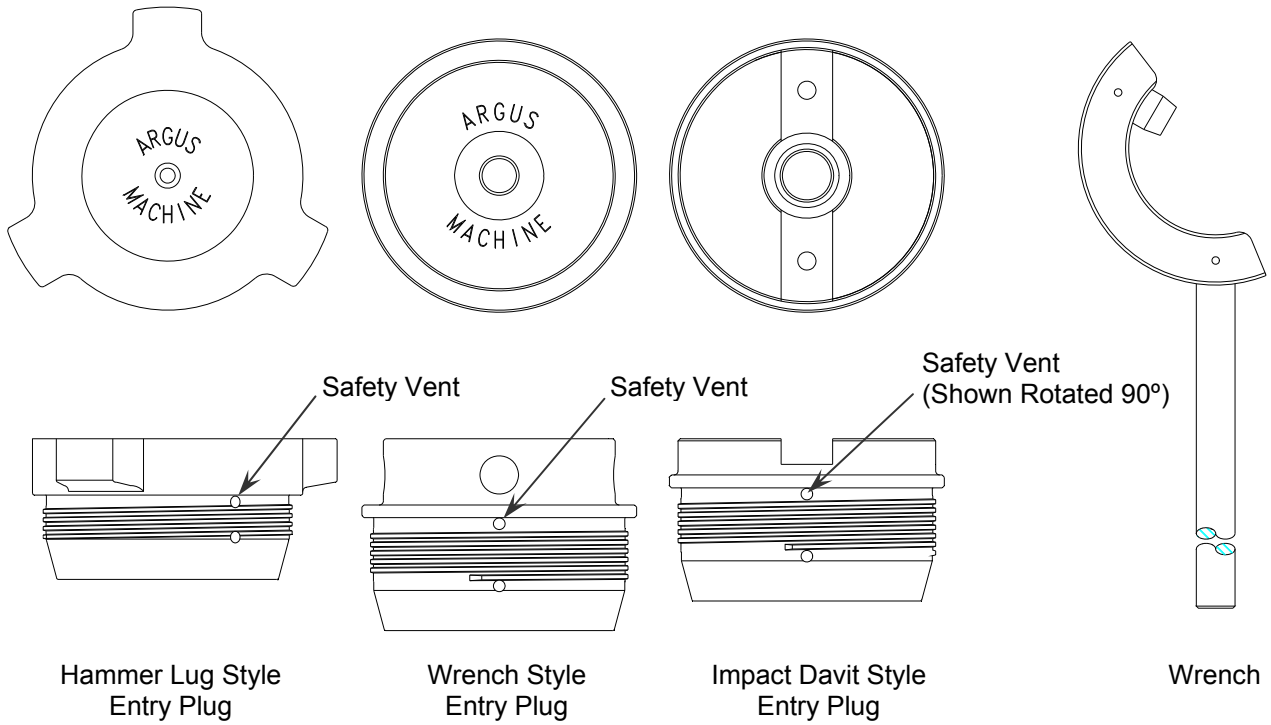

Figure 3: Argus Entry Plug Styles
(Refer to Figures 3, 4 & 5)
- 4) Slowly loosen entry plug (refer to Figure 3 to determine style of entry plug) by rotating counterclockwise using a “non-spark mallet”, “wrench” or “impact davit”. Observe the safety vent area (covered by the weather seal) at the top of the threads on entry plug (see Figure 2). If there is any media flowing from this area when the entry plug is being loosened, immediately re-tighten entry plug. Repeat steps 3 and 4. If unable to bleed all pressure from body cavity refer to the “Troubleshooting” section in this manual.
- 3) Slowly loosen entry plug (refer to Figure 3 to determine style of entry plug) by rotating counterclockwise using the supplied entry plug wrench. Observe the safety vent area (covered by the weather seal) at the top of the threads on entry plug (see Figure 2). If there is any media flowing from this area when the entry plug is being loosened, immediately re-tighten entry plug. Slowly open bleed valve to valve bleeding pressure and draining fluid from Pig Valve main body cavity. If unable to bleed all pressure from body cavity refer to the “Troubleshooting” section in this manual.